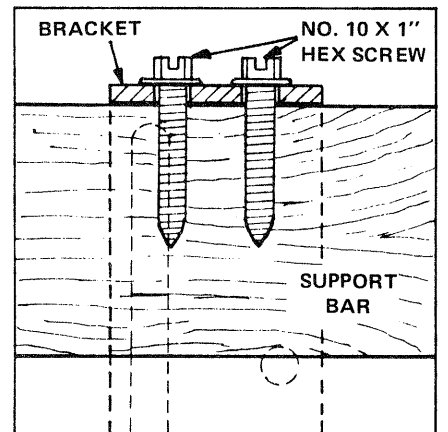

FIGURE 5-12A Cross-section view of mounted Bracket (on TOP of Bar).
- A. Secure the Bracket to the Bar with two #10 x 1" Hex Washer Hd. Screws as shown in FIGURE 5-12A, then proceed to STEP 5-21 on the next page. See the NOTE below.